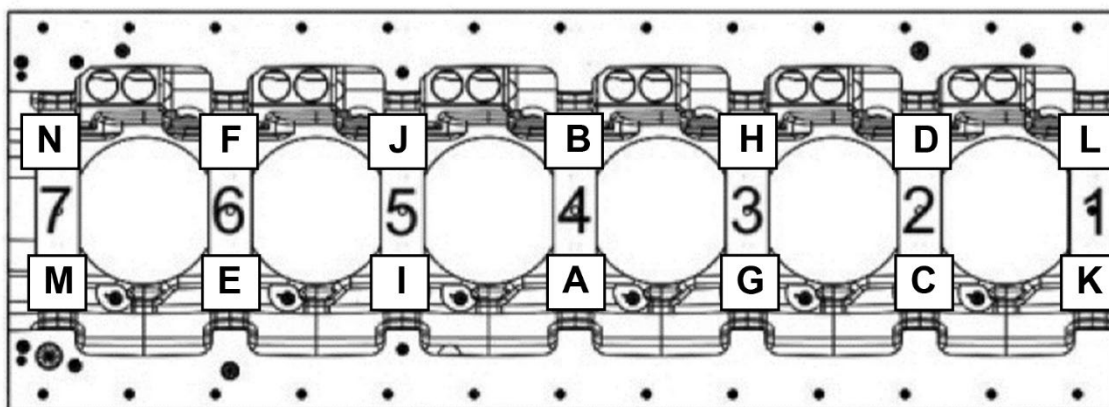

Figure 107.
- Tighten the main bearing bolts (Figure 107) in alphabetic order (A – N) to 59 lb-ft.
- Tighten the main bearing bolts (Figure 107) in alphabetic order (A – N) to an angle of 60°.
- Tighten the main bearing bolts (Figure 107) in alphabetic order (A – N) to an angle of 199 ± 15 lb-ft.